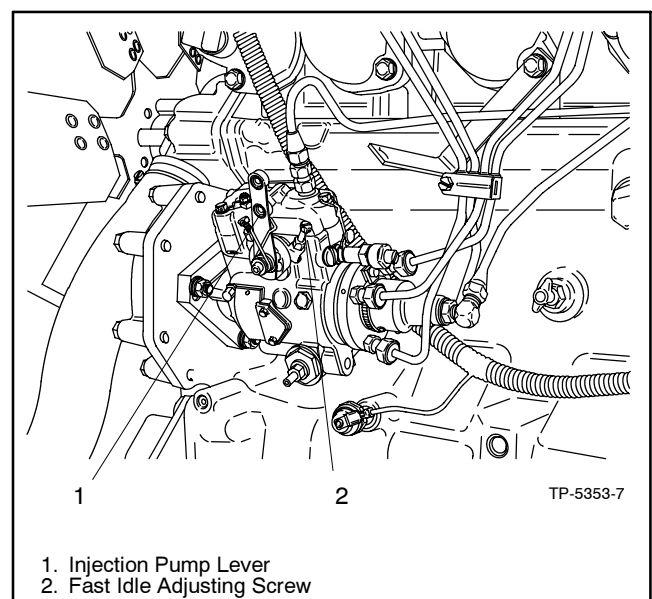

Figure 8-7 Governor Adjustments, Typical
3. Verify that injector pump lever is held in fast idle position against fast idle adjusting screw. See Figure 8-7.